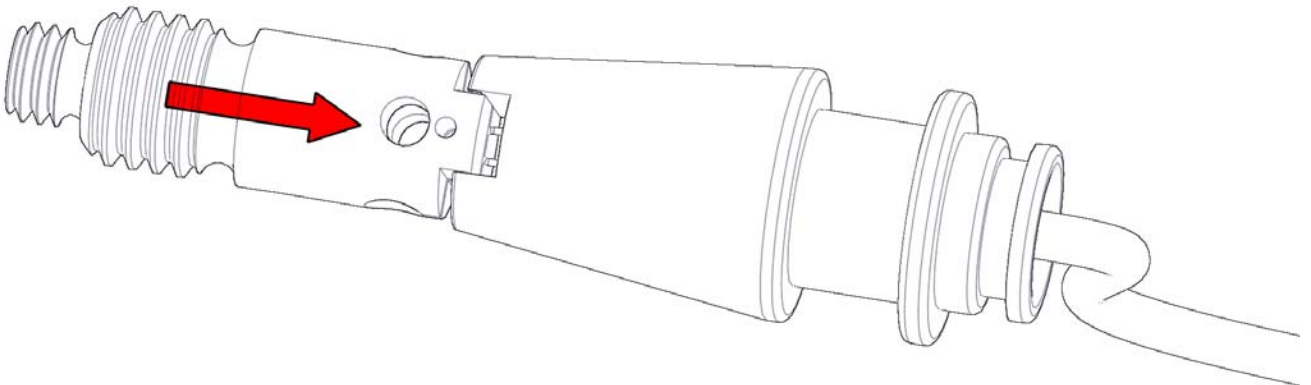

Figure 2-14 Sliding the threaded peek stud into the release housing.
2. Slide the threaded peek stud over the wire loop and into the release housing (Figure 2-14).